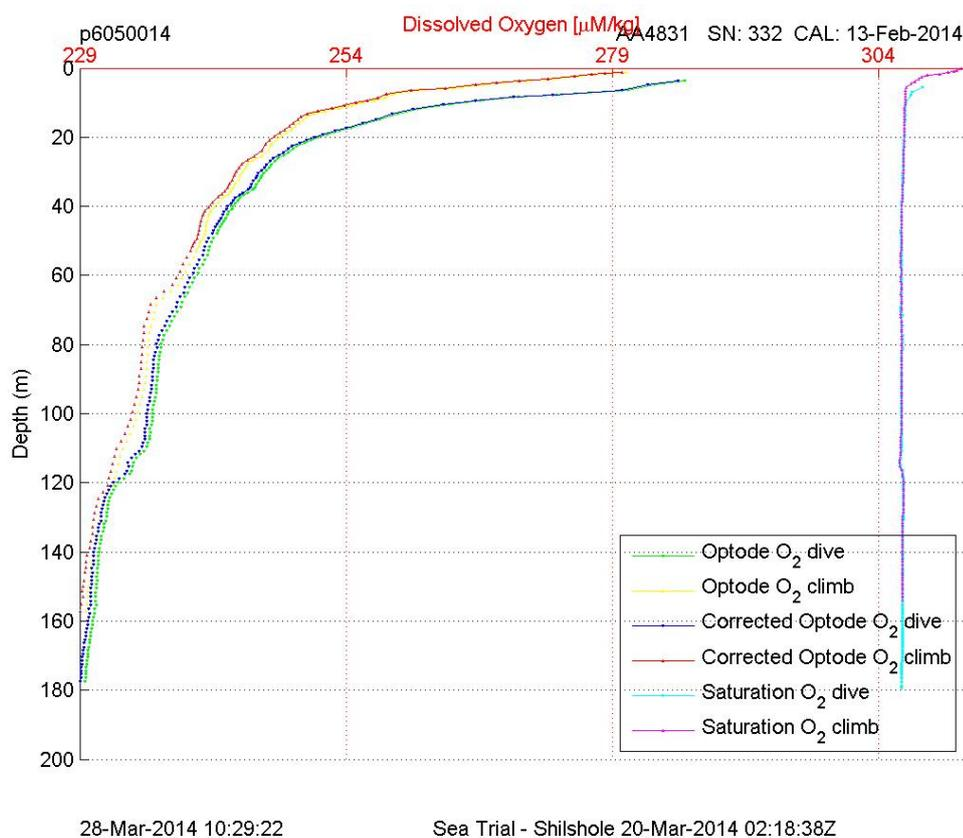

Figure 15 Dissolved Oxygen plot
The Dissolved Oxygen (DO) plot (Figure 15) shows data collected by the Aanderaa Optode. Plotting capability is also present for SBE DO data. Uncorrected and corrected data is shown for both the descent and ascent portions of the dive. Additionally, if DO data is available, the graph will display oxygen saturation data. Oxygen saturation data is calculated using the Seawater library (part of MATLAB scripts). The seawater library uses salinity, temperature, and pressure for this calculation and does not require oxygen data acquired from DO sensor.